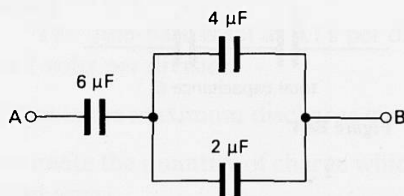

Figure B86
**36(P)** This question is about the circuit in figure B86.